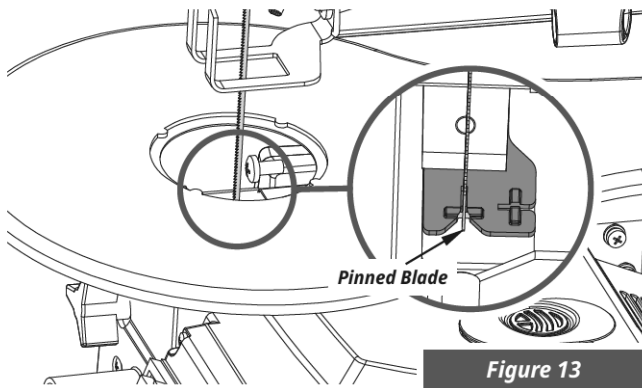

Figure 13
4. Inserting the new pinned blade. Lead one end of the pinned blade through the perforation in the table and insert the pinned blade pins into the notch. Repeat this procedure at the upper blade support. Before hooking it in. Slightly press the upper arm down. Check the position of the blade pins at the supports. Tighten the blade by means of the Clamping screw. Check the blade's tightness. Keep on rotating clockwise in order to tighten the blade even more. (See Figure 13&14&15)